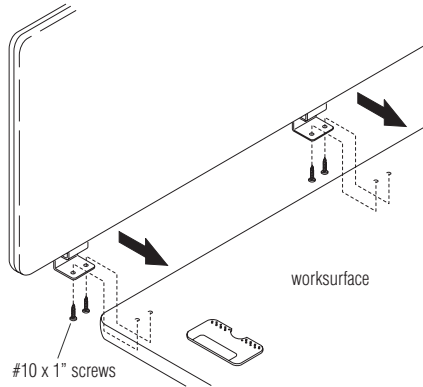

Figure 1
1. Position privacy screen with bracket on the top back edge of the worksurface. Line up the left and right edges of the privacy screen with the left and right edges of the worksurface (Figure 1).
2. Attach to pre-drilled holes in worksurface with #10 x 1" screws (four screws on 30" and 36" privacy screens (Figure 1).